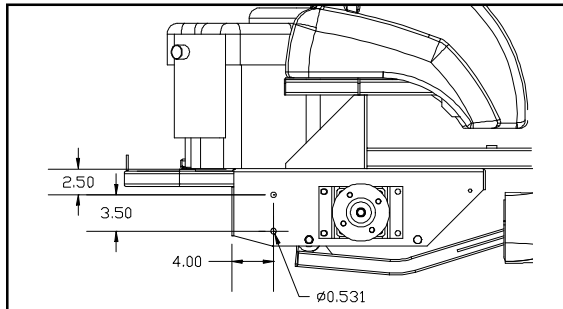

Figure 4
- Using combination square and scribe, mark hole centers in back plate of mower frame as shown in Figures 4 & 5. Use center punch to locate hole center. Hole centers are in same location on both sides.